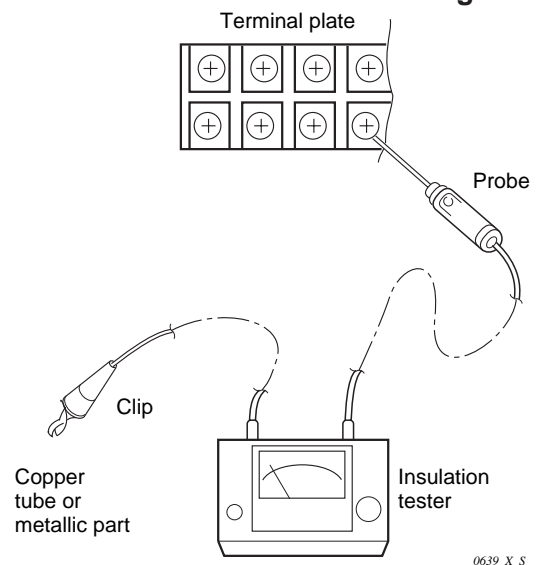

Fig. 40
Clamp an aluminum plate fin or copper tube with the lead clip of the insulation resistance tester and measure the resistance by placing a probe on high voltage terminal on the terminal plate (Fig. 40)
③ Outdoor Unit (SPW-C253GH5)
Clamp a metallic part of the unit with the lead clip of the insulation resistance tester and measure the resistance by placing a probe on ① and then ② on the 8 or 6P terminal plate. (Fig. 40)
③ Outdoor Unit (SPW-C253GH8, SPW-C363GH8, SPW-C483GH8)
Clamp a metallic part of the unit with the lead clip of the insulation resistance tester and measure the resistance by placing a probe on ⑤ and then ⑥, and then ⑦ on the 8P terminal plate. (Fig. 40)